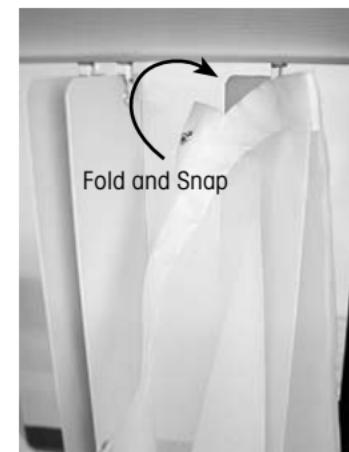

Figure B3
4. To attach the sheer drapery to the vinyl vanes, begin with the first vane on the right hand side of the blind. Locate the first snap pocket on the right hand side of the drapery. With the back snap unsnapped and the front snap still connected, fold the sheer around the top of the vane and reconnect the snap at the back. (See Figure B3)